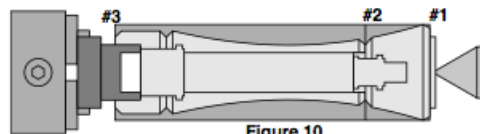

Figure 10
33. See Figure 10. Push Mill Body "tenon #3" on jam block.